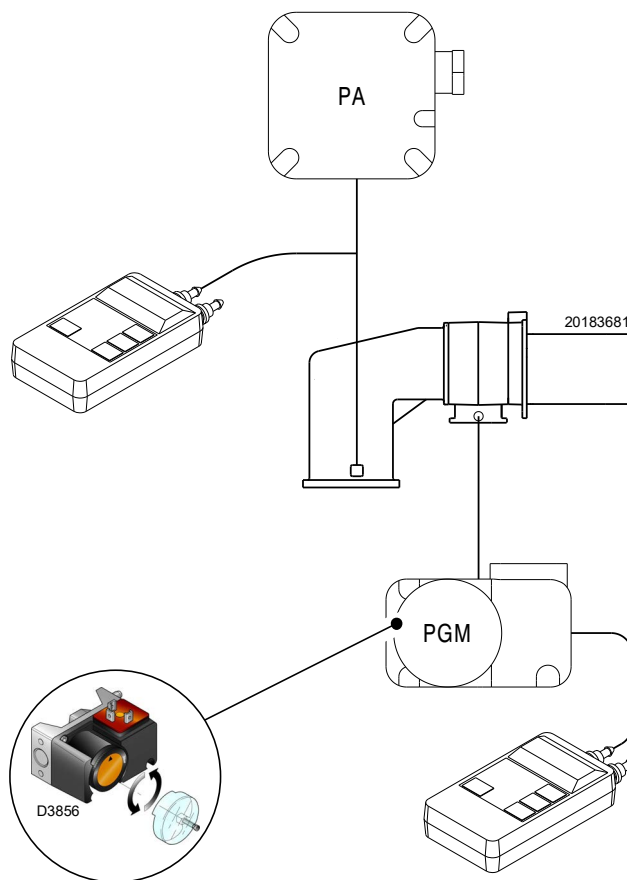

Fig. 28
- Adjust the minimum gas pressure switch (Fig. 28, page 29) to the start of the scale.
- adjust the maximum gas pressure switch (Fig. 28, page 29), on the butterfly valve, to the end of the scale;
Adjust the maximum gas pressure switch (Fig. 28) after making all other burner adjustments with the maximum gas pressure switch set to the end of the scale.